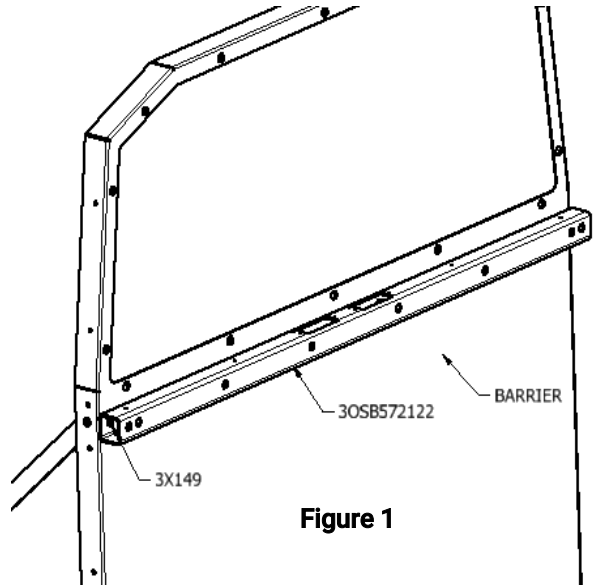

Figure 1
- A. Locate the OSB / Seat Bar [3OSB572122], (4) 5/16" button head screws [3X149], and (4) 5/16" whiz nuts [3X619].
- B. Remove the (4) button head screws [3X149] from the front of the Barrier holding the rear L-brackets on. Try to keep the L-brackets in place as it will ease reinstallation of these fasteners later.
- C. Orient the OSB Bar [3OSB572122] such that the (12) smallest holes face upward and the (8) largest holes face the front of the vehicle.
- D. Attach the OSB Bar to the barrier with the (8) total button head screws and (8) whiz nuts. Insert the screws from the front of the vehicle through the large holes in the OSB bar and fasten with the whiz nuts on the back side of the barrier (Fig. 1).
- A. Prior to installation in the vehicle, the center support bracket [3OSB572101] must be bolted to the retractor bracket [3OSB572120] using the supplied 7/16" bolts [3X616] and 7/16" nuts [3X614]. Align the 3 holes in each bracket and make sure the bottom of both brackets are flush. (Figure 1)